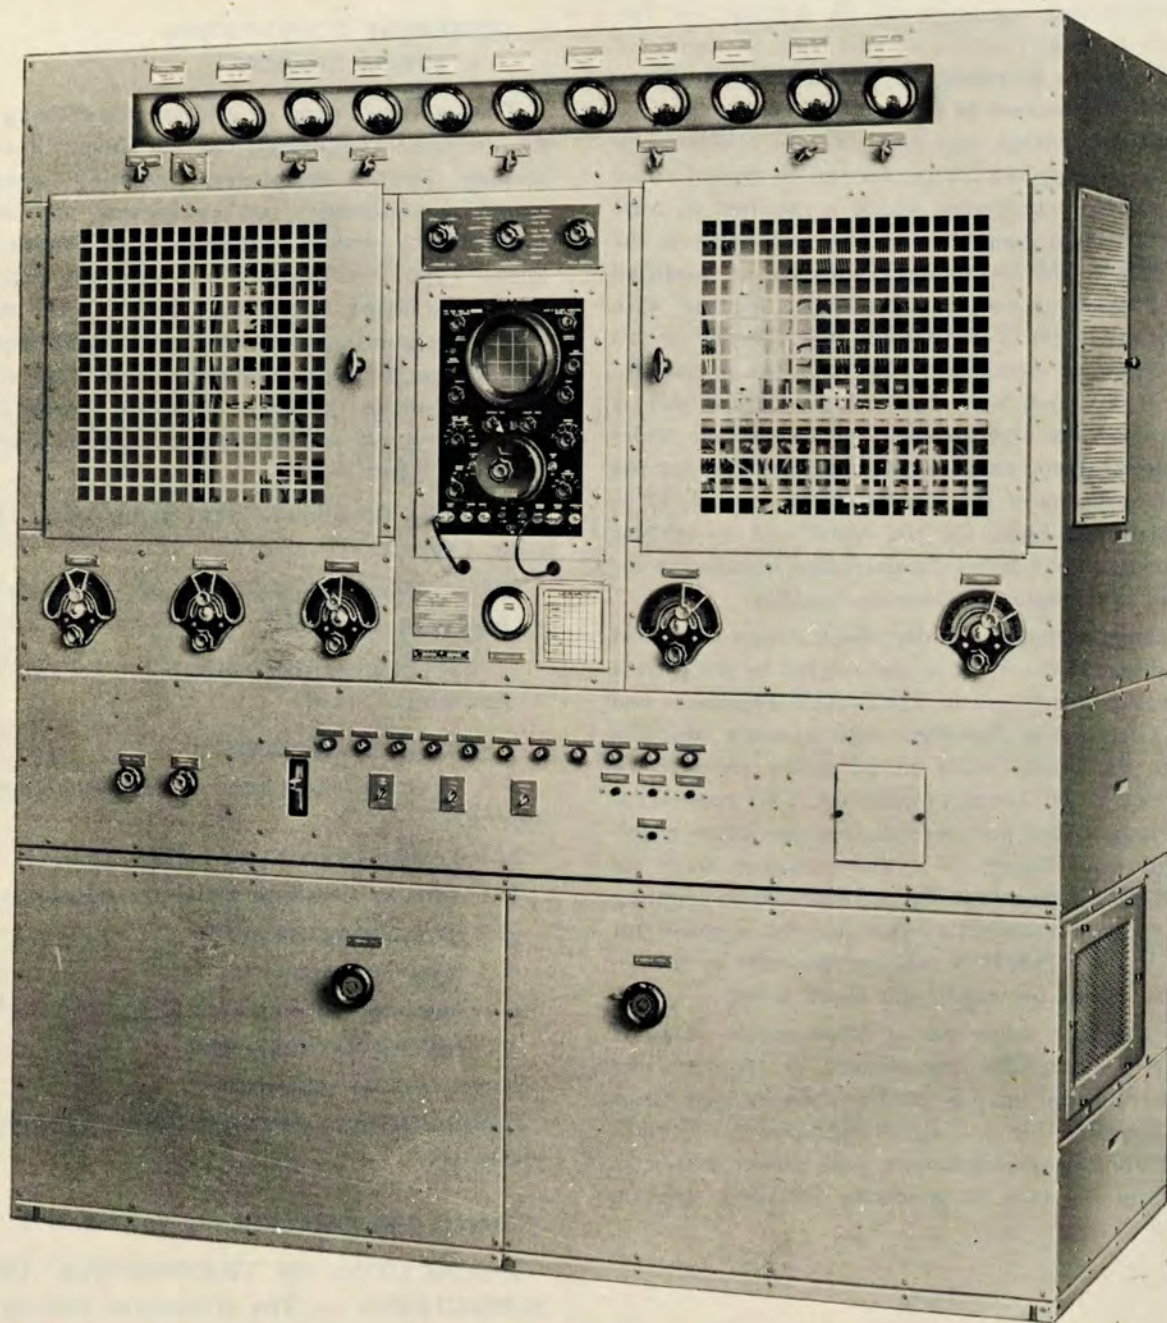
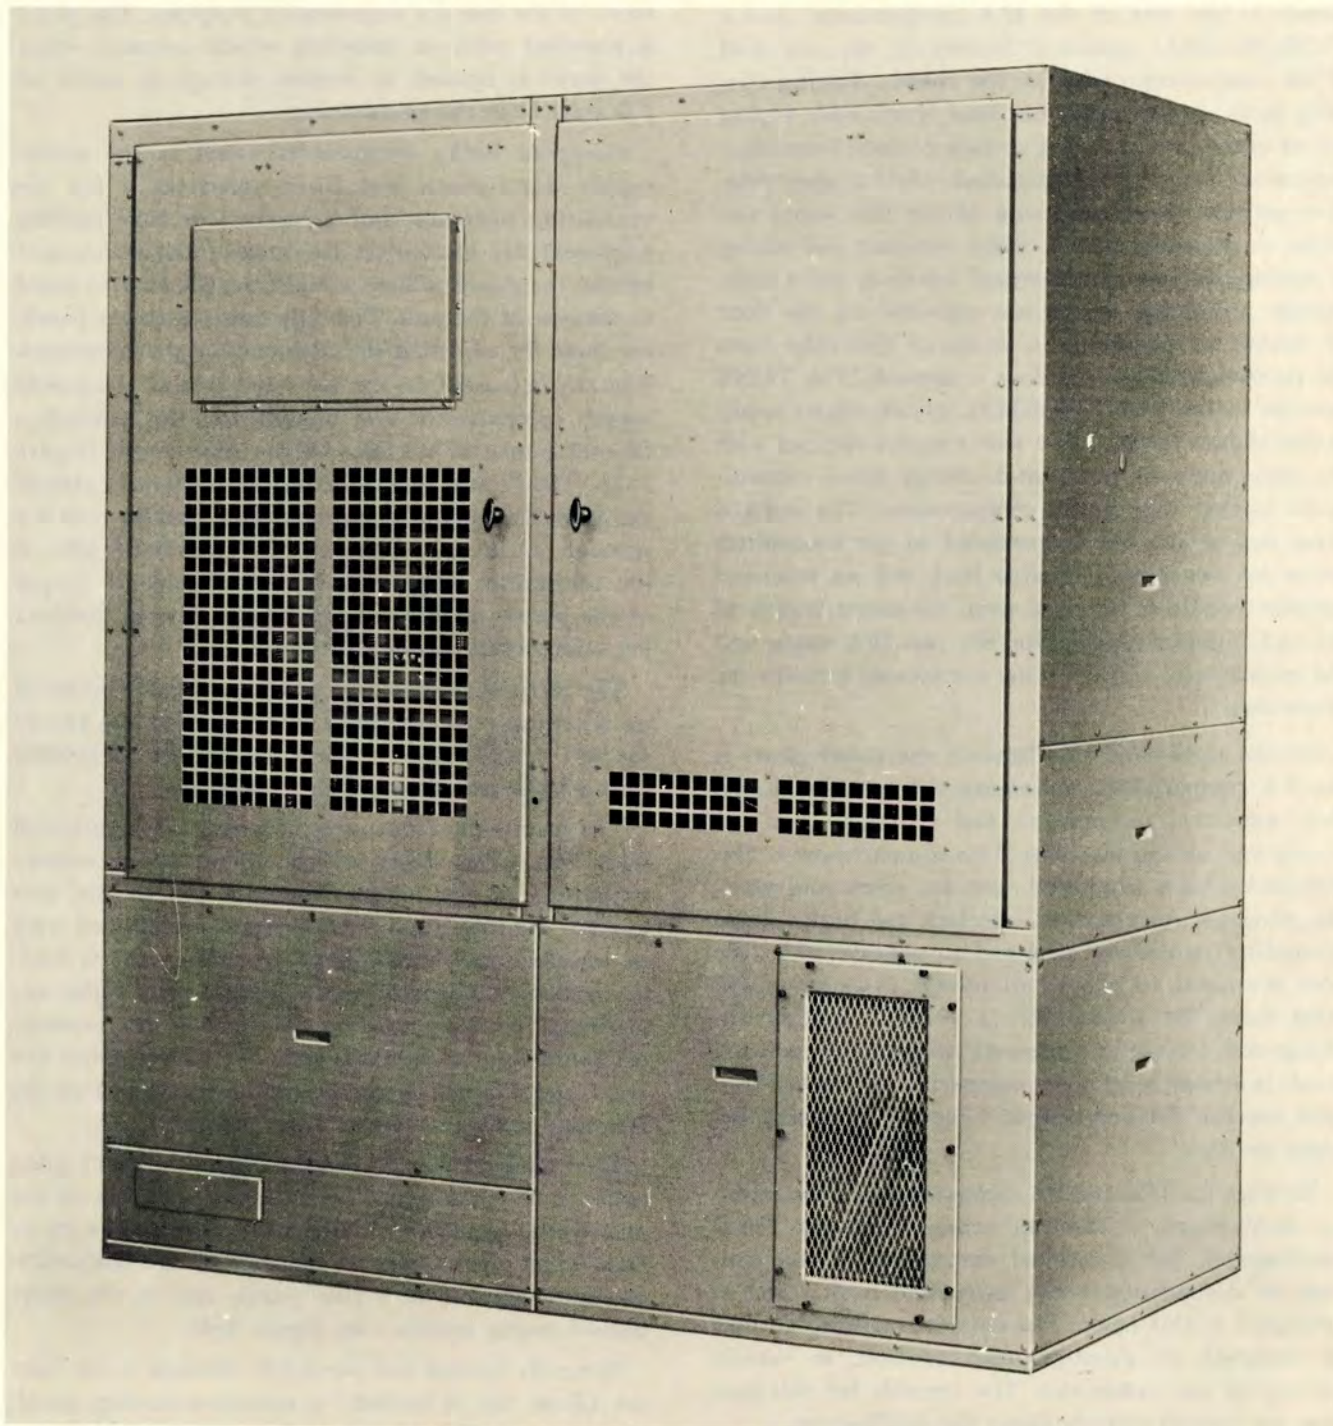

Figure 1-2. Radio Transmitter Type T-325B/FPN, Front View
Figure 1-3. Radio Transmitter Type T-325B/FPN, Rear View
b. DESCRIPTION. — The components of Radio Transmitter Type T-325B/FPN are contained in an aluminum cabinet 72 $\frac{1}{4}$ inches wide by 36-5/16 inches deep by 80 $\frac{1}{8}$ inches high (figure 1-2). All panels are permanently secured to the frame with screws, and hinged access doors are provided in front and rear to permit inspection, adjustment, or replacement of those components which require periodic attention. As far as practicable, components are grouped functionally,
A meter panel extending across the uppermost portion of the transmitter (front) contains all the principal meters used for ordinary monitoring purposes (figure 1-2). Above each meter are two plates; one contains the meter designation, and the other, a plasticized matte plate, contains the normal meter reading
Heavy or bulky components (such as the power supply transformers and filter capacitors, a fan for ventilating purposes, and a blower for tube cooling purposes) are located on the base of the transmitter behind the panels which extend from the control panel to the base of the unit. The only controls on the panels are those for adjusting the filament and plate voltages. The fan is located on the left-hand side of the power supply compartment and obtains cool air through a filtered intake at the rear of the transmitter (figure 1-3). The blower is located on the right-hand side of the power supply compartment and obtains cool air through a filtered intake on the right-hand side of the transmitter (figure 1-2). The forced-air output of the blower is directed against the base of the four PA tube sockets through a metal duct.
The rear of the transmitter (figure 1-3) is provided with two access doors which extend approximately two-thirds of the length from the top of the unit towards the base. Each of these doors is equipped with an interlock and high-voltage grounding switch similar to those on the front access doors; a third capacitor-discharge rod is mounted on the frame of the transmitter behind the right-hand door (as viewed from the rear) and a fourth discharge rod is located behind the left-hand door (as viewed from the rear).